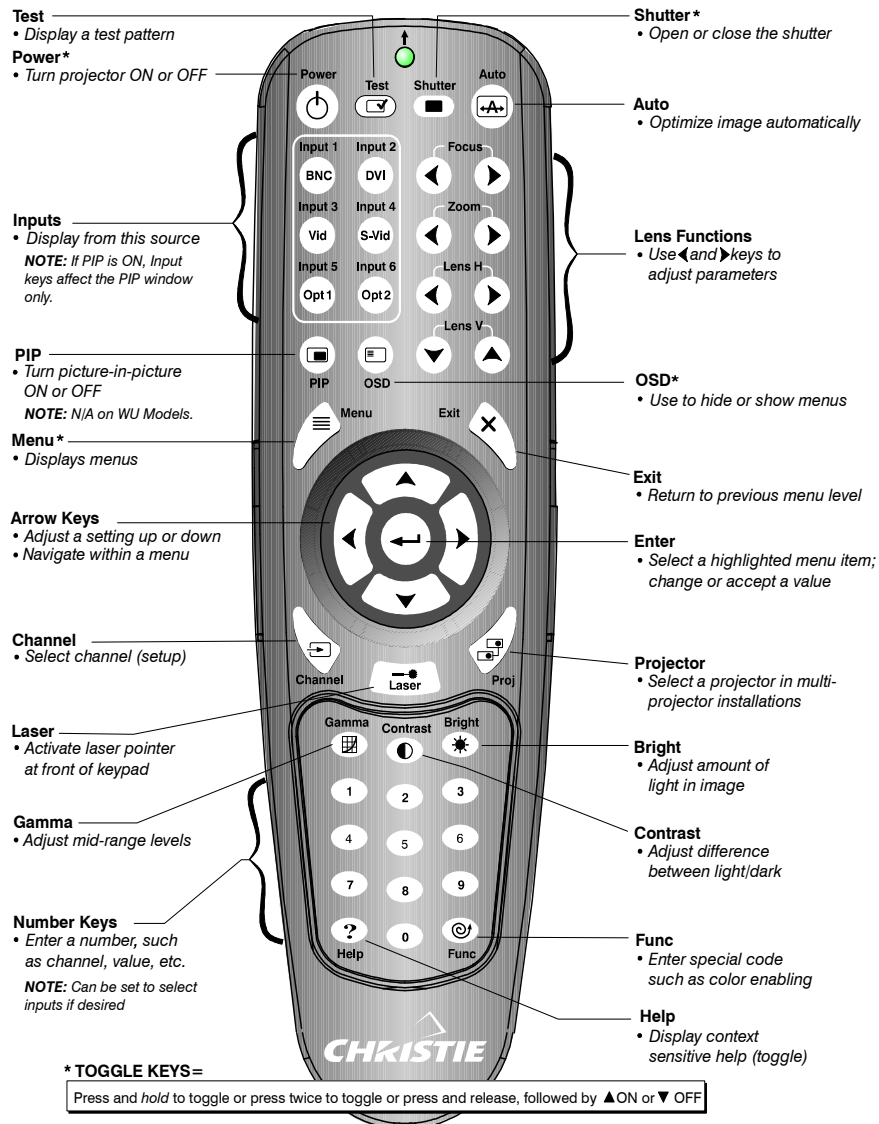

Figure 3-3 Remote Keypad
- **The Remote keypad** (*Figure 3-3*) for tethered or tether-less control (includes cable for connecting as a wired remote)